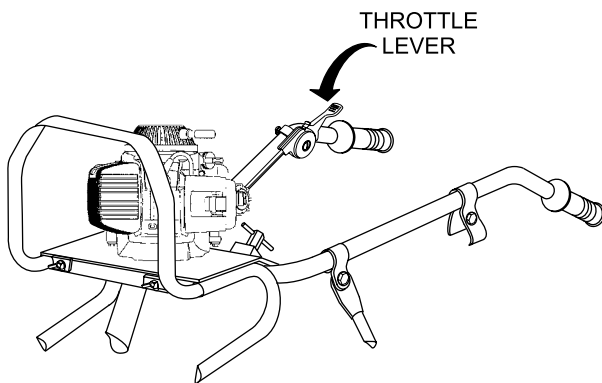

Figure 16. Throttle Lever
9. To begin screeding move the engine throttle lever (Figure 16) midway between **idle** and **full throttle**. Notice that the DuoScreed's vibration will cause the blade to sink into the concrete base until it touches the top of the grade pins.
2. Move the engine **throttle lever** (Figure 16) to the low speed position (idle).